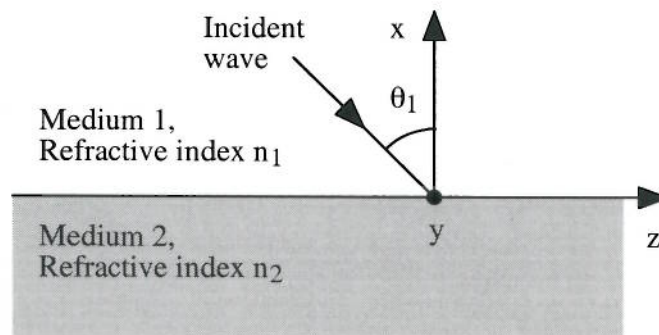

Figure 1.
1. A y-polarized optical beam of free-space wavelength λ is incident on an interface between two dielectric media at an angle θ_1 as shown in Figure 1. The two media have refractive indices n_1 and n_2 , and $n_1 < n_2$.